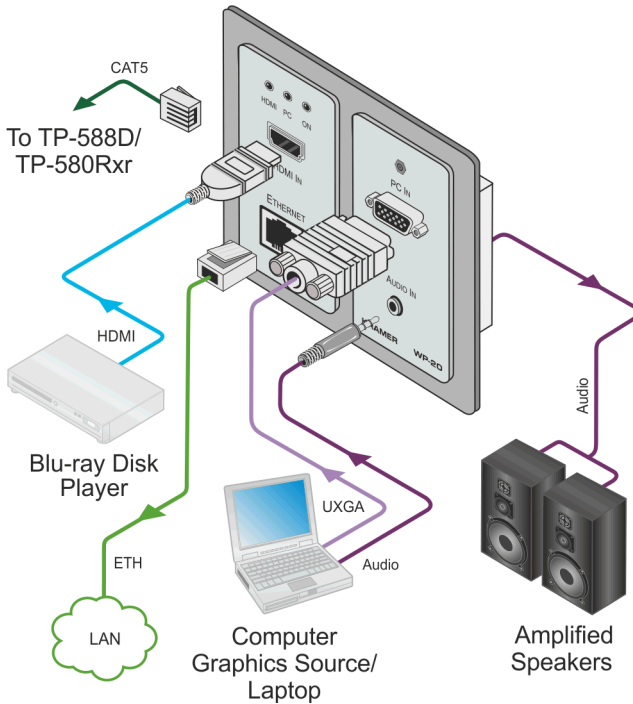

Figure 6: Connecting the WP-20 Wall Plate
**To connect the WP-20, as illustrated in the example in Figure 6:**
7. If the device is not connected to a PoE provider, connect the power adapter to the **WP-20** and to the mains power, (not shown in Figure 6).